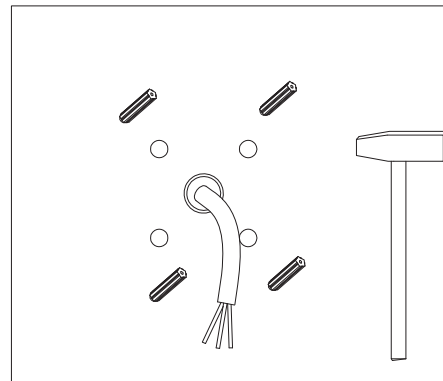

Figure 8
Step 5: Fix rubber plugs into holes (Figure 8).